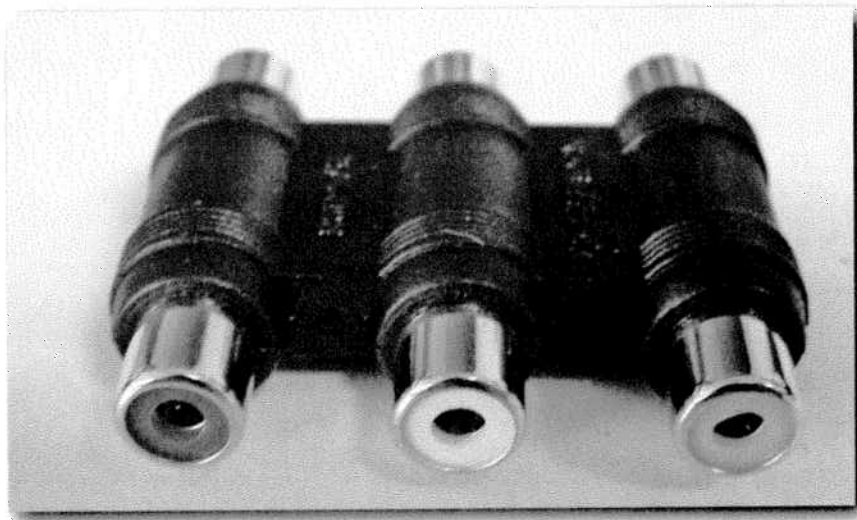

FIGURE 9-11: Phono coupler.
- In-line Triple Phono Plug Coupler with left audio, right audio, and composite video jacks (around \$7, see Figure 9-11). If you want only audio inputs, not video, get a Dual instead of Triple phono plug coupler.